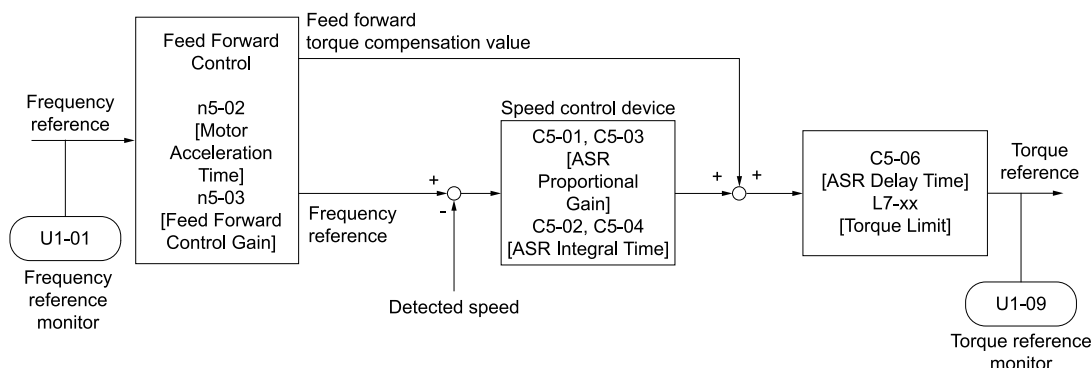

Figure 12.124 Configure Feed Forward Control
Increase the values set in *C5-01* and *C5-03* [ASR Proportional Gain] to apply feed forward control to machines that have low rigidity and are possible to have hunting and vibration or to machines that have a large quantity of inertia. Refer to Figure 12.124 for more information about parameters related to feed forward control.
- If you cannot do Inertia Tuning, refer to Figure 12.124 and set the parameters related to feed forward control individually.